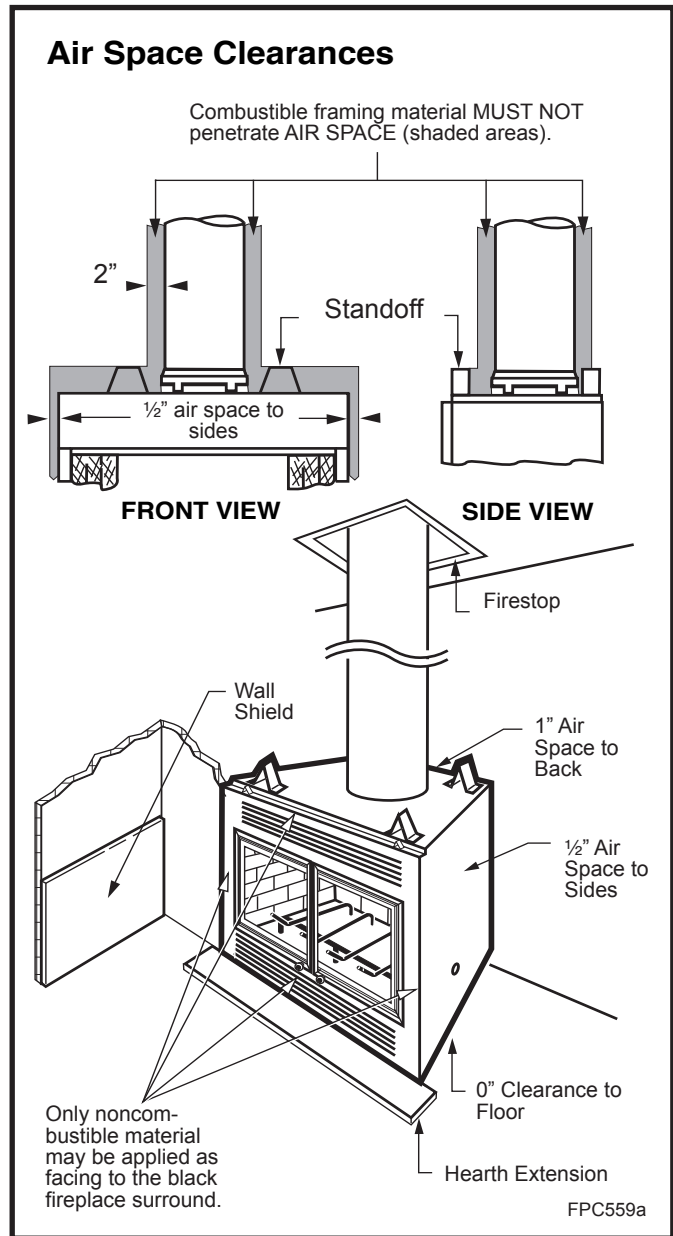

Fig. 18 Minimum clearances to combustibles.
**CAUTION:** All joints between the finished wall and the fireplace surround (top/sides) must be sealed with non-combustible material to prevent cold air leakage into the room. Only noncombustible material may be applied to the facing of the fireplace surround. (Black painted area) (Fig. 18)
Adjacent combustible side walls that are within minimum dimensions shown in Figure 24 of the fireplace opening must be protected with MHSC Wall Shield Model SP40 or a specifically built wall shield described in Figure 18.
The special wall shield design described in Figure 18 is an alternate method of adding protection to side walls and can be used in place of the SP40 with the same wall clearances specified for the SP40. Rt must =1.85 minimum.